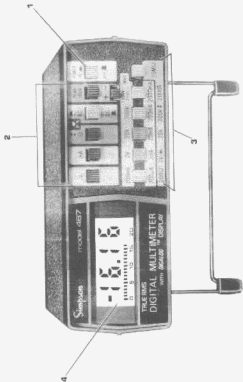

FIGURE 3-1. FRONT PANEL DESCRIPTION
3.2.1 This section, consisting of Table 3-1 and Figures 3-1 and 3-2, will describe the proper function of the 467.